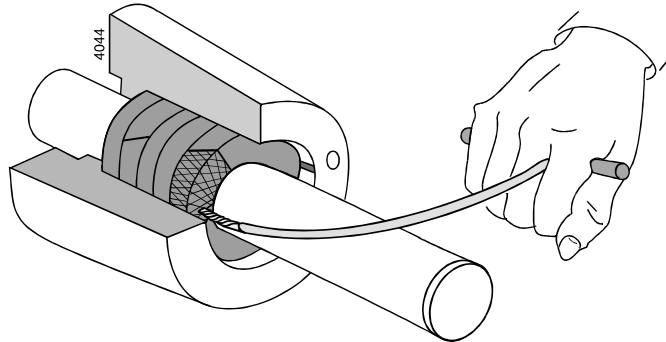

figure 25 A special packing puller.
- For removing old packing your supplier can supply a special packing puller. See figure 25.